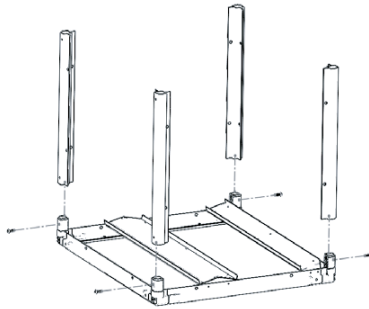

**Fig.3** Install frame sections into frame corners.
1. Slide qty 4 frame sections onto the black frame corners so the screw holes align with the threaded holes in the frame corners. Install qty 1 of supplied #10-32 screws into each frame section to secure the frame to the filter rack. **See Fig. 3**